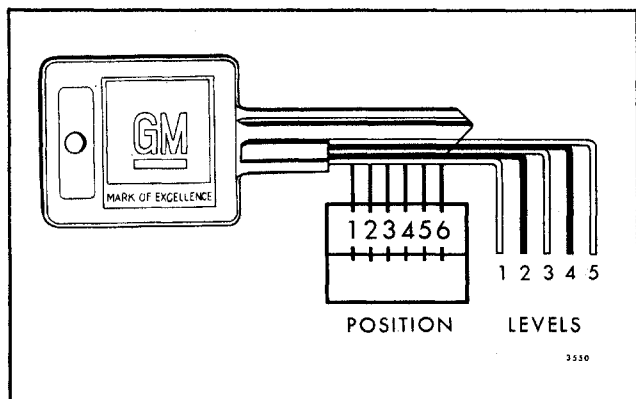

Fig. 1-4-Key Code Diagram
After code number has been recorded by owner, plugs should be knocked out of key head. From these numbers, lock combination can be determined by use of a code list (available to owners of key cutting equipment from equipment suppliers). If key code numbers are not available from records or from the knockout plug, lock combination (tumbler numbers and position arrangement) can be determined by laying key on diagram in Figure 1-4.
After the special code has been determined, either from code list or key code diagram (Fig. 1-4), cut blank key to the proper level for each of six tumbler positions, and check key operation in lock cylinder.
- a. Lay key on key code diagram (Fig. 1-4) with key outlined by diagram as accurately as possible.